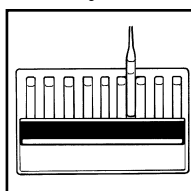

Figure 4
7. Obtain a test result by placing the ampoule between the color standards until the best color match is found. Fig. 4